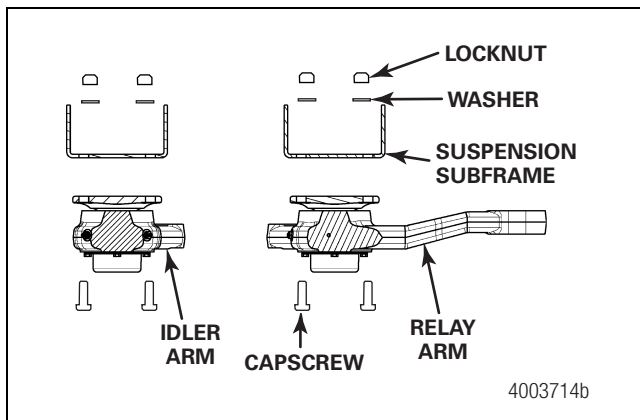

Figure 7.23
4. Install the relay arm and idler arm assemblies to the subframe with eight new 5/8-11 x 2.0 capscrews, locknuts and hardened washers. Do not tighten the locknuts completely. Ensure that the locknut is threaded onto the capscrew at least 5/8-inch (15.88 mm). Leave enough room to install the relay rod. Figure 7.23.